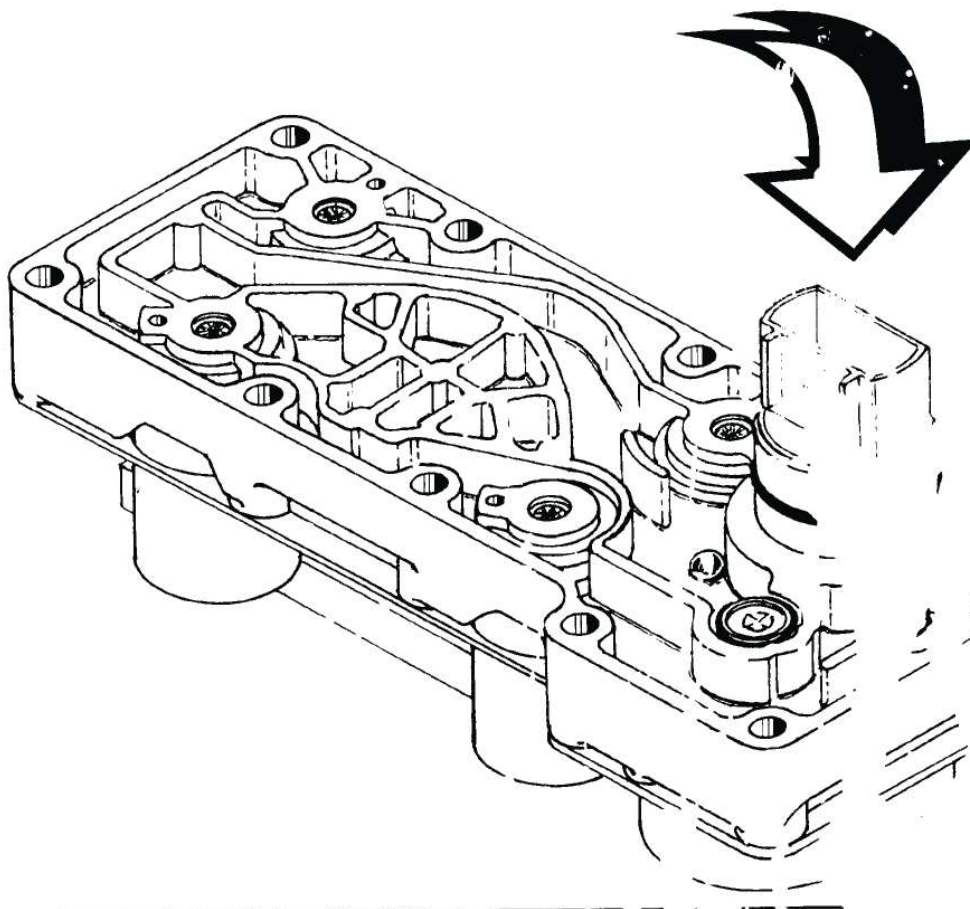
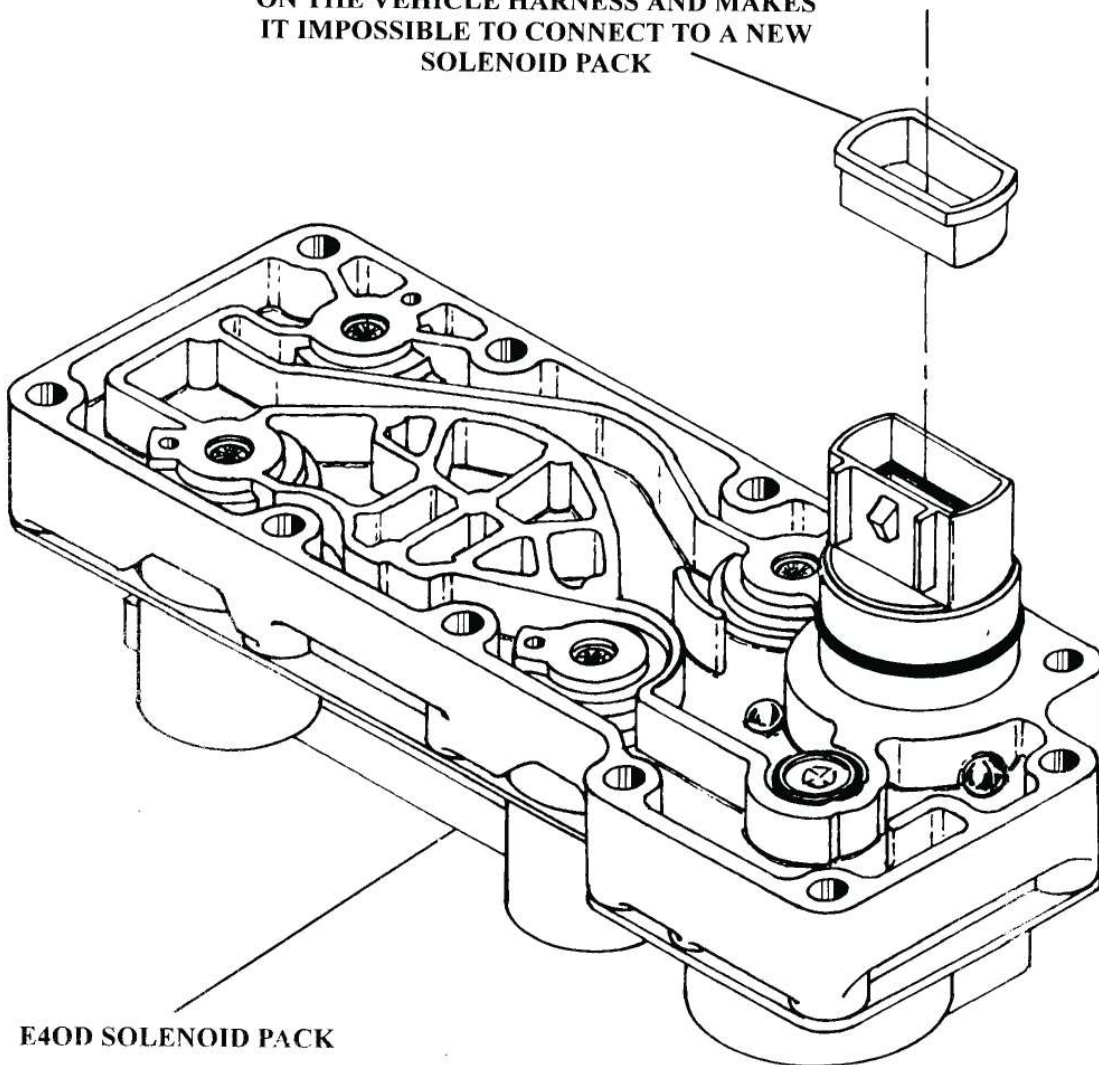

Figure 52
Figure 53
- (1) **SOLENOID PACK** - New design solenoid assembly case connector to accommodate the new design vehicle harness connector. Refer to Figure 52 for identification of the previous design and the new design solenoid assemblies.
**NOTE:** The plastic sleeve incorporated in the previous design solenoid pack has been eliminated on the new design solenoid pack (See Figures 52 and 53). This plastic sleeve will sometimes remain on the vehicle harness connector when it is disconnected. If a new solenoid pack is installed (which includes sleeve), it will be impossible to reconnect the vehicle harness to the solenoid pack until the old sleeve is removed from vehicle harness connector. Refer to Figure 53.